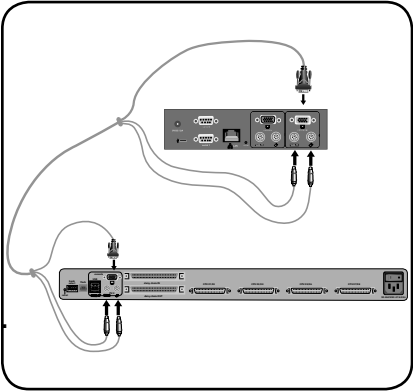

Fig. 3
- 3.2 Using the provided PS/2 and VGA cable kit, connect one end to the “CPU/KVM switch” monitor, keyboard, and mouse ports on the RIPM. See **Fig. 3**.